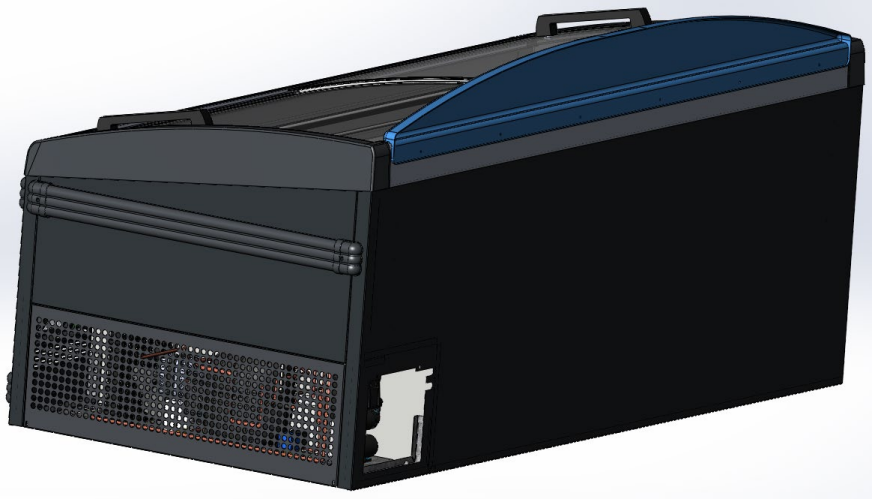

Fig. 4.2.6. Decorative overlay.
6. On the end showcases, a plastic overlay is mounted, and then the panels of the dustpans are installed and connected to other showcases (Fig. 4.2.6).